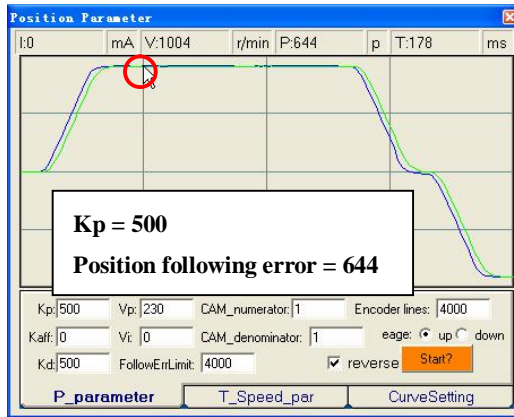

Figure 6-29: Increase Kp to 500 for quick response
**Step 3:** Increase **Kp** to maximize the system stiffness until motor noise/vibration begins, following the same way as **Vp**. See figure 6-29, 6-30, 6-31 and 6-32. The motor shaft or load is stiff enough at standstill when we increase **Kp** to 1800 and the motor noise/vibration can be accepted.